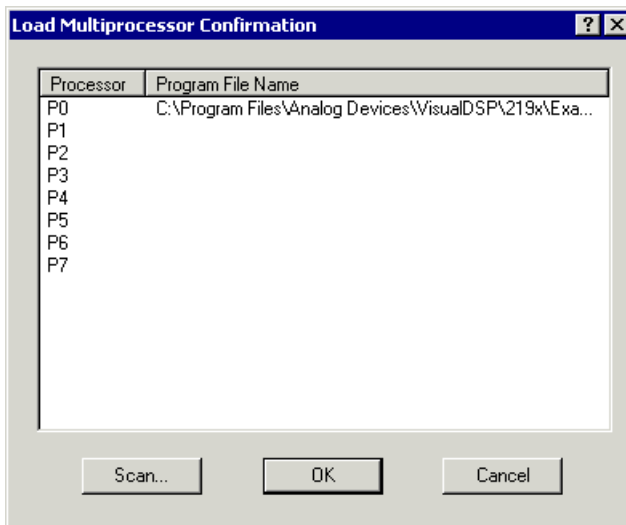

Figure 2-47. Specifying Load `dotprodc.dxe` into Processor P0
4. Double-click `dotprodc.dxe` to open the **Load Multiprocessor Confirmation** dialog box, shown in Figure 2-47.